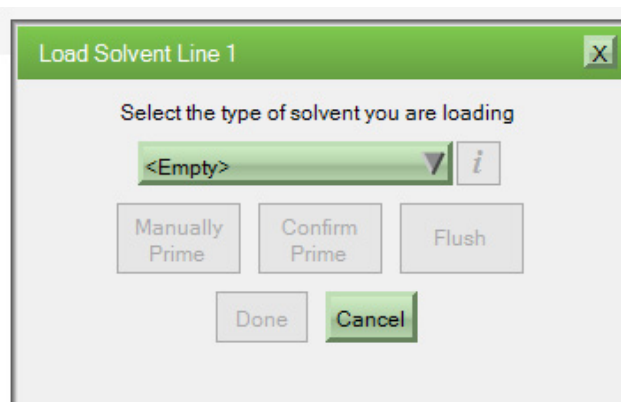

Figure 4-3: Load Solvent Line 1 Dialog Box
2. Press *Load* to present the *Load Solvent Line 1* dialog box (Figure 4-3).
Change presents a dialog box similar to the *Load Solvent Line 1* dialog box (Figure 4-3). Select the solvent in the same manner as for an empty solvent entry and prime the system in the same manner.